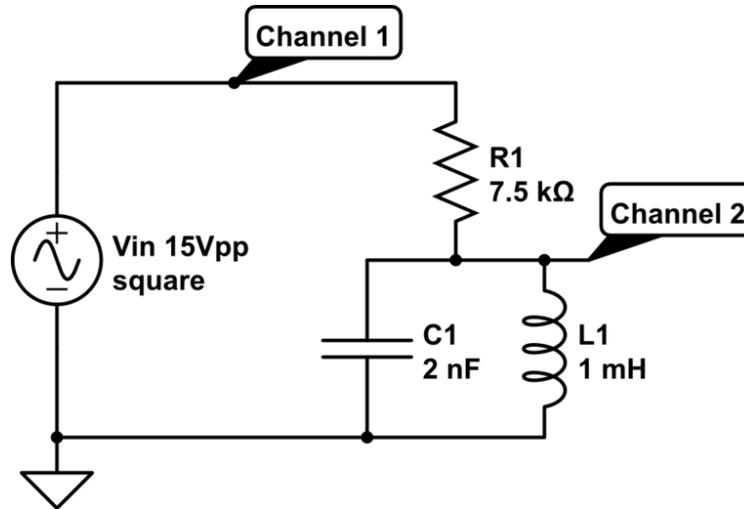

Figure 1: Band Pass Filter
- Construct the band pass circuit shown in figure 1 and set the function generator to a square wave with a frequency equal to the one you just found. Overlay the input and output signals on the scope screen. Include a picture in your report.